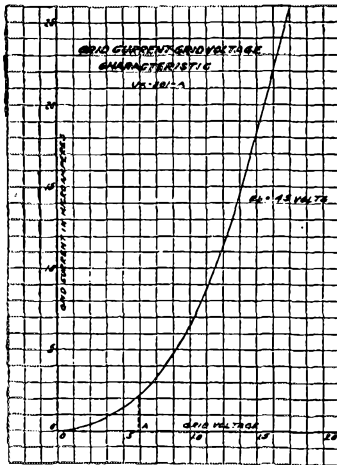
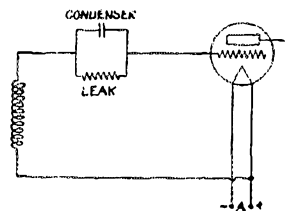

FIG. 1
FIG. 2
It is a well-known fact that if a curve of grid current for various grid voltages is taken for a common high-vacuum tube, such as the UX-201-A, a curve of the form shown in Fig. 1 is produced. It is this curved characteristic of the tube that makes the usual method of detection possible. Let us see how this characteristic is used. To do this it will be found convenient to forget about the plate and the plate circuit for the time being. For the purpose of explanation, let us take the grid characteristic curve of the UX-201-A as shown in Fig. 1 and also the circuit which is used with this tube for detection with the grid leak and condenser (Fig. 2). Under these conditions the grid will assume a potential which (referred to the "—" end of the filament) will be less than the five volts on the filament by an amount equal to the voltage drop through the grid leak. The current flowing to the
grid will be some value gI . The resistance of the leak should be such that the grid potential corresponds to a point on the grid characteristic where the curvature is the greatest, such as the point (A) Fig. 1. When an unmodulated radio frequency wave is impressed on the grid under these conditions, there will be an increase in the direct current flowing to the grid. The reason for this, is that when the grid potential swings more positive on one half of the cycle there is an increase in grid current and when the grid swings more negative than the point a, on the next half of the cycle there will be a decrease in the grid current. On account of the curvature of the characteristic, the increase is greater than the decrease, and the result is an increase in the average current flowing to the grid. This increase in grid current would not of itself cause any change in the plate current of the tube, but since the increase in grid current must flow through the grid leak, the voltage drop across the grid leak is increased and therefore the potential of the grid with reference to the filament is decreased. This decrease in the grid potential causes a decrease in the plate current, which explains why detection, by the use of a grid leak and condenser, takes place with a decrease in plate current. It has been assumed in this discussion that all of the radio frequency